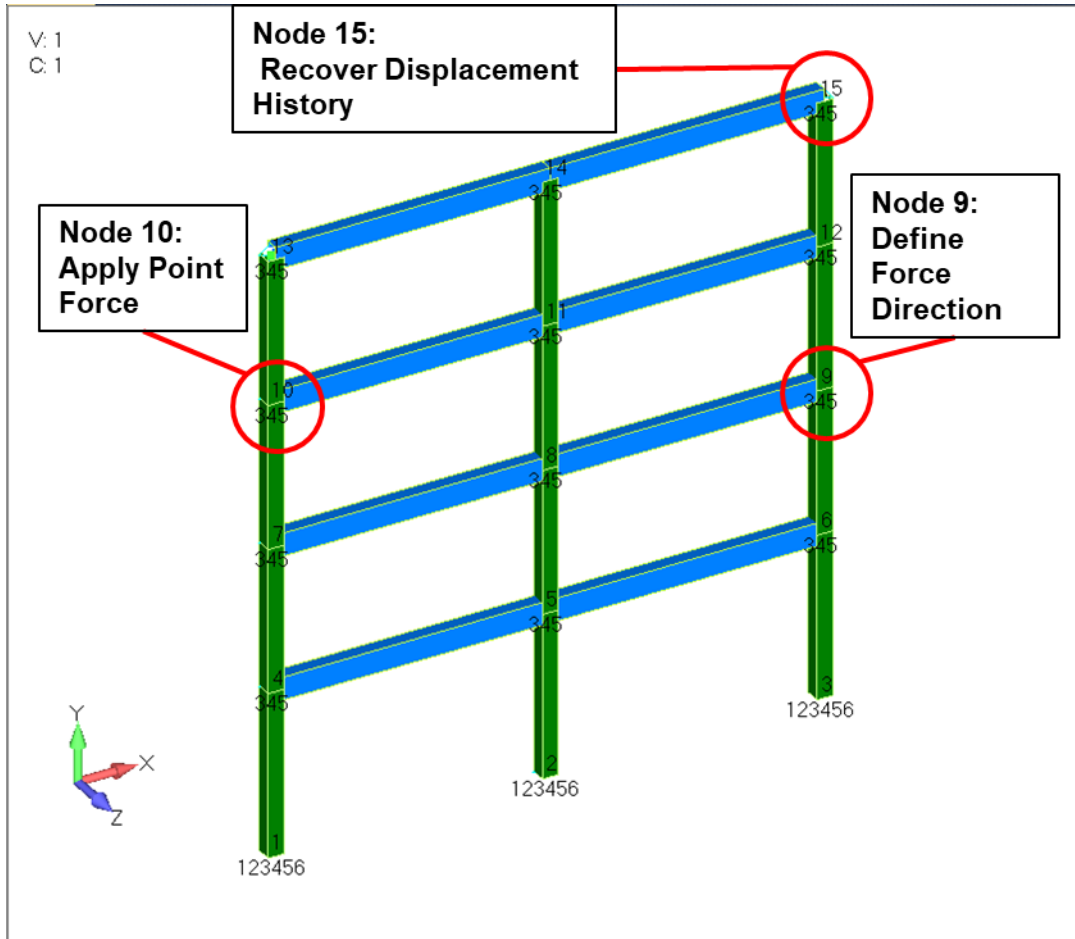

Figure 4-111. Frame model showing nodes of special interest.
1. If you have not already done so for a previous example, import the frame model "frame01_modes.dat" into Femap. Save the model file as "frame.modfem." Figure 4-111 shows the model with notes about nodes that will be of special interest for this analysis, either for defining input or for recovering physical responses.